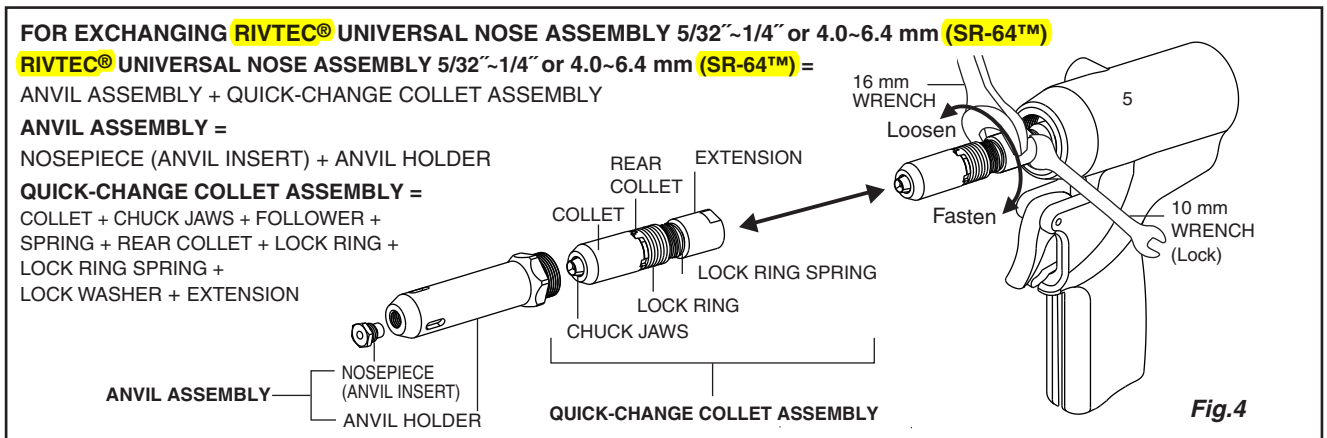

Fig.4
**See Fig. 4**, choose a new **RIVTEC® Universal Nose Assembly 5/32"~1/4" or 4.0~6.4 mm (SR-64™)**, take out the inside quick-change collet assembly from the anvil holder, use a wrench 16 mm and a wrench 10 mm to fasten the quick-change collet assembly to the oil piston (8) in the oil cylinder (5) firmly, finally use a wrench 12 mm or 14 mm to fasten the chosen size nosepiece (Anvil Insert) to the anvil holder and the wrench 2712 (52) 27 mm to fasten anvil holder back to the oil cylinder (5). Now the new working nose assembly **SR-64™** is ready for setting the matched size structural or standard/commercial blind **NOTE: Do not need to install the retaining nut (1) and adapter (2) when installing RIVTEC® Universal Nose Assembly 5/32"~1/4" or 4.0~6.4 mm (SR-64™).**
3. **See Fig. 4**, use two wrenches 16 mm to unscrew collet assembly from the threaded part of oil piston (8). Now the replaced nose assembly is dismantled.